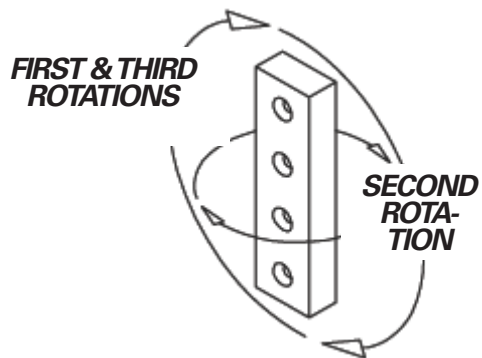

FIGURE 7-18
3. The first and third times the lower blades are rotated, each blade should be turned end for end and reinstalled in the same blade seat. The second time the blades are rotated, each blade should be flipped over (see Figure 7-18).